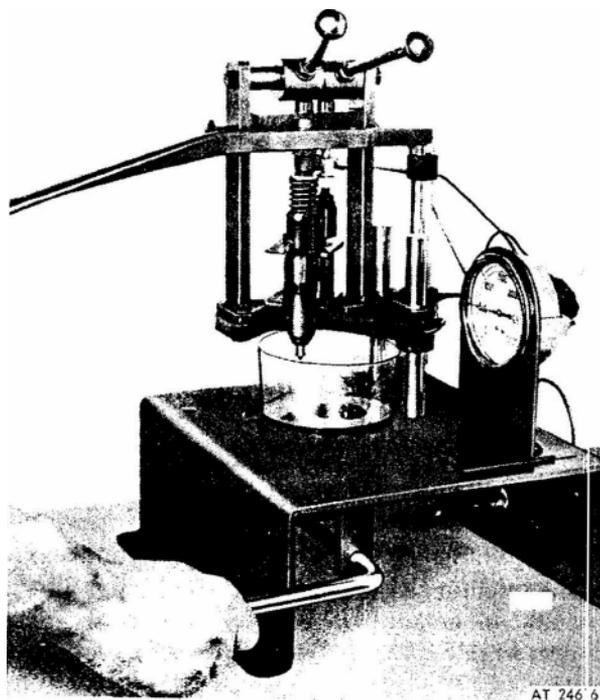

Figure 8. Injector high pressure test.
4. With the injector rack in the FULL-FUEL position and the injector tester handle locked in position by means of the handle lock (see fig. 8), operate the pump handle to build up and maintain the pressure.
Use the adjusting screw in the injector tester handle to depress the injector plunger just far enough to close both ports in the injector bushing. The point at which both ports are closed may be easily ascertained by the fact that the injector spray will decrease appreciably and a rise *in* pressure will occur. At this time, the condition of the plunger and bushing may be established. If there is excessive clearance between the plunger and bushing, pressure beyond the normal valve opening pressure cannot be obtained. Replacement of the plunger and bushing assembly is then required. Pump up the injector tester J 9787 (fig. 8) and maintain a pressure of 1600 to 2000 psi by actuating the pump handle. Then, inspect for leaks at the injector filter cap gaskets, body plugs and injector nut seal ring.